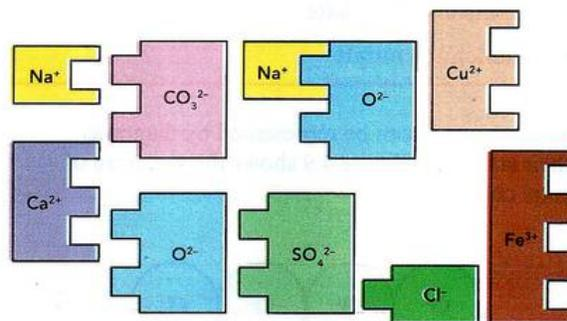

Figure 4.10: Examples of jigsaw cards designed to help with matching ionic charge to form compounds.
Work in groups to make a set of jigsaw cards for the common ions that form compounds (Figure 4.10).
Step 3: Divide each rectangle into cards representing the ions needed for each compound. For the positive ions, create 'slots' in the card. For the negative ions, create 'tabs'. The 'tabs' on the negative ions should fit into the 'slots' in the positive ion cards. The number of slots or tabs on each card represents the charge of the ion. Use Figure 4.10 as a guide. More than one card of the same ion may be needed to complete the compound. In addition to the cards based on the ions in Table 4.4 you should make cards for CO_3^{2-} , O_2^- and Fe^{3+} ions (see Figure 4.10).